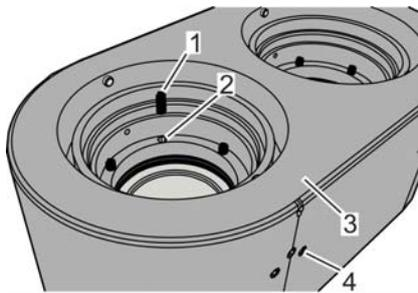

Fig. 122: Inserting the compression springs
- 5. Insert the compression springs (Fig. 122/1) into the boreholes (Fig. 122/2) of the bearing housing (Fig. 122/3).